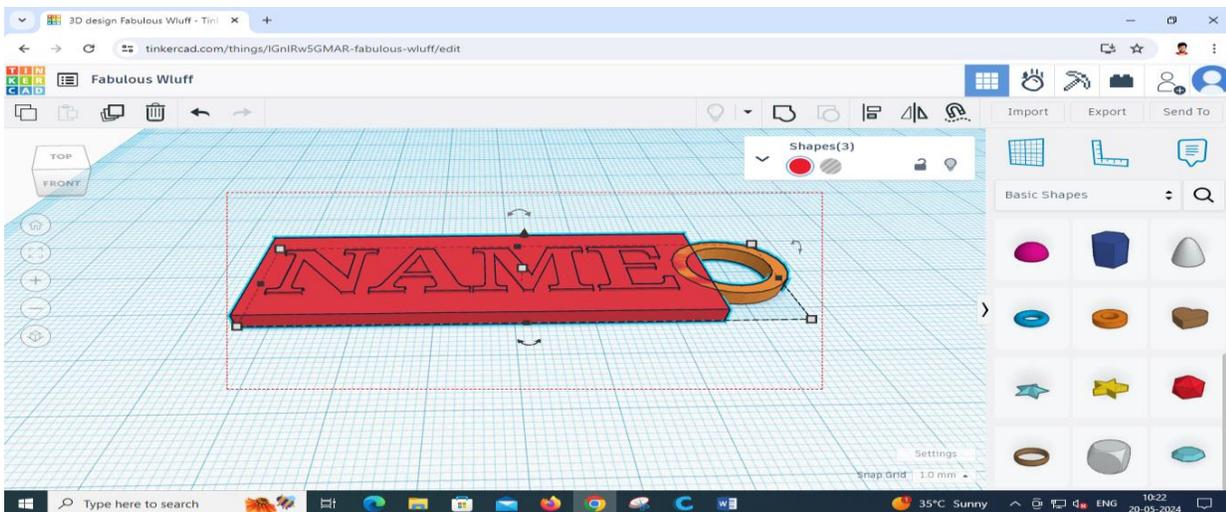

Fig.2.22 Selecting the overall design
11. Click and drag a square around your entire design. (Refer fig. 2.22)